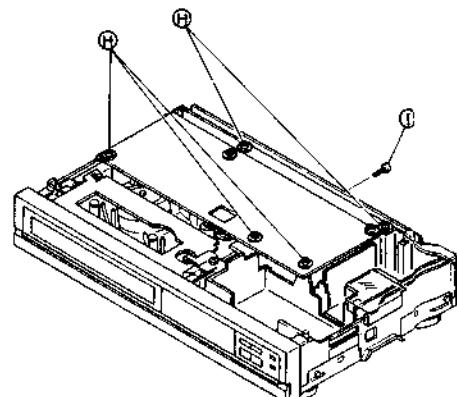

Fig. 1-1-4
2. Refer to Fig. 1-1-4 and take out 5 screws **(H)** and 1 screw **(I)** from main board assembly.